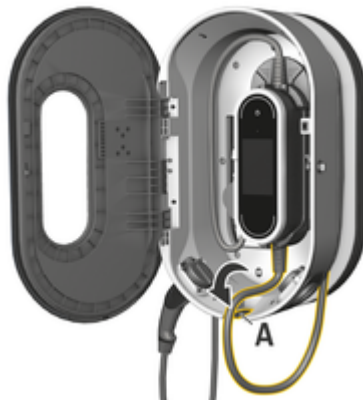

Fig. 41: Attaching the control unit
3. Guide the vehicle cable through the opening **A** (Fig. 41) and wrap any excess cable around the charging dock.